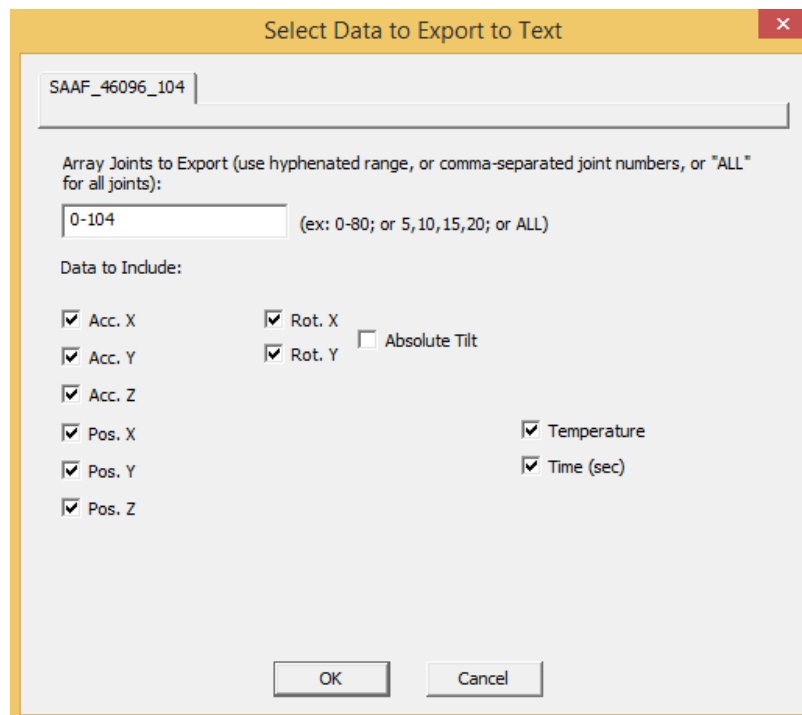

Figure 6.30: ‘Select Data to Export to Text’ window.
- Clicking this button opens the window in **Figure 6.30**.